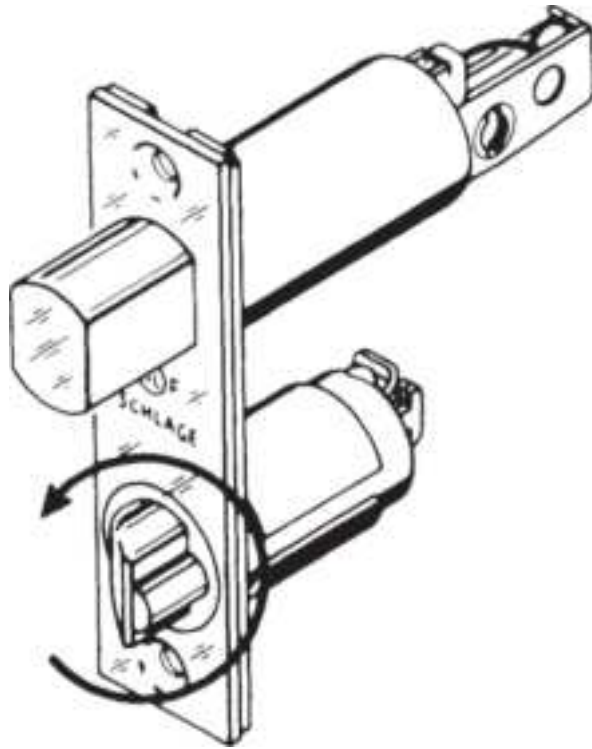

**Figure 13.113** Right-hand conversion, Step 21.
21. Turn the deadlatch 180° (Fig. 13.113 ).